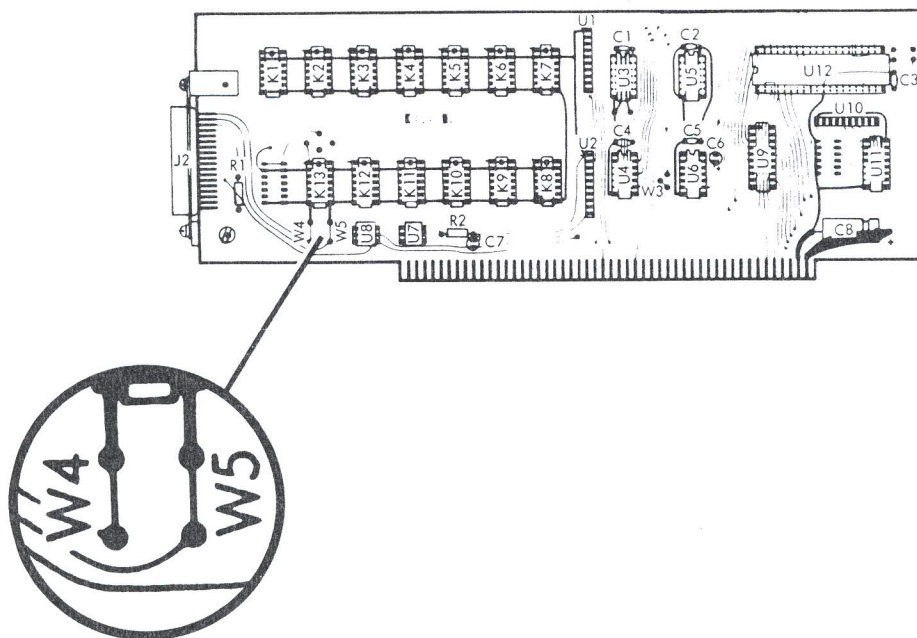

Figure A-3. Handler Interface Circuit Card
- STEP 3. Locate and cut the connecting stripes labeled W4 and W5 (see Figure A-3).